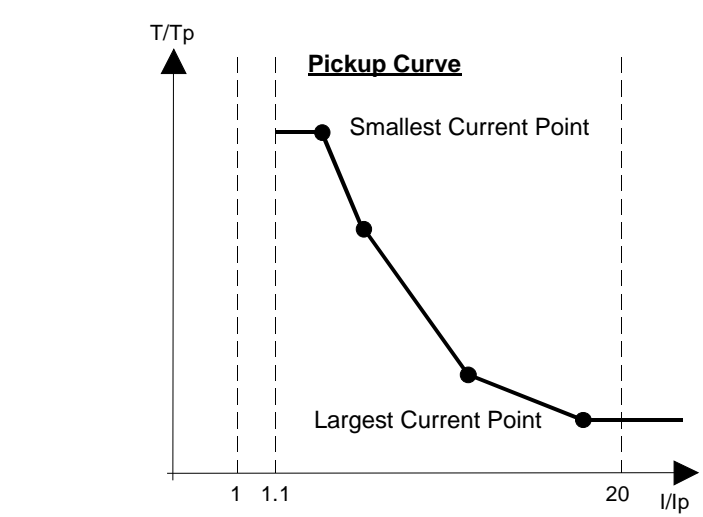

Figure 6-24 Use of a User Defined Curve
- Current flows less than the smallest current value entered will not lead to an extension of the tripping time. The pickup curve (see Figure 6-24) continues, from the smallest current point parallel to the current axis.
- Current flows greater than the highest current value entered will not lead to an abbreviation of the tripping time. The pickup curve (see Figure 6-24) continues, from the largest current point parallel to the current axis.